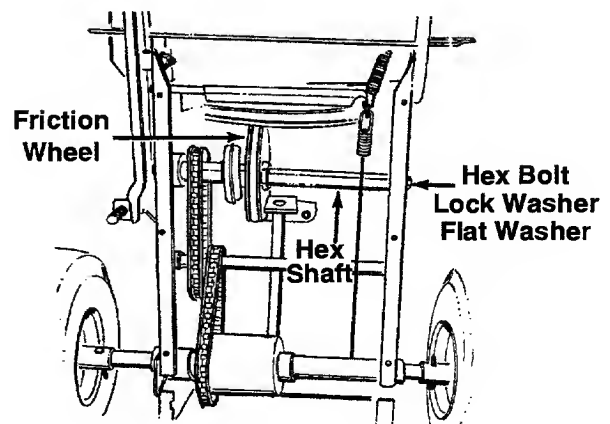

Figure 19
4. Remove the hex shaft from the unit by removing the hex bolts, lock washers and flat washers from each side of the frame. See Figure 19. Hold the friction wheel assembly, and slide the hex shaft out of the unit toward the right side.